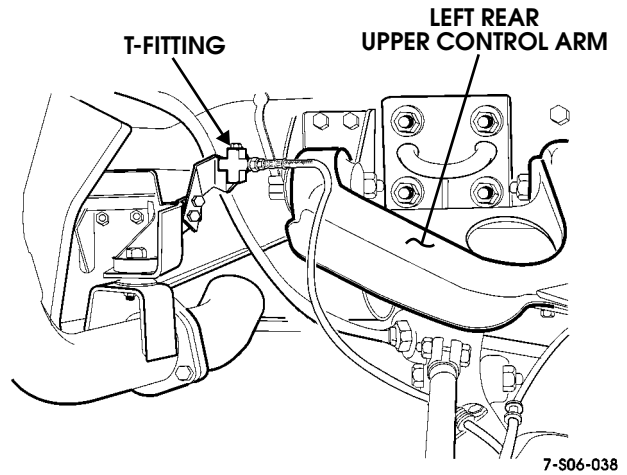

Figure 6-75: T-Fitting Location
1. Disconnect line at rear wheel and at T-fitting (Figure 6-75).